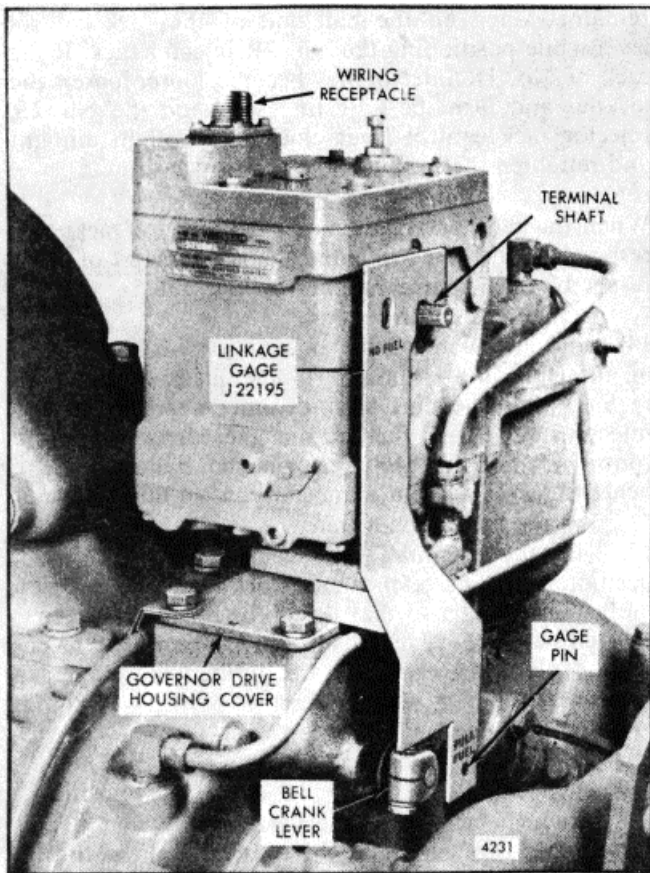

Fig. 2. Linkage Gage in Position
2. Turn the maximum speed adjusting screw (Fig. 2()) in until the screw contacts the throttle linkage internally, limiting the maximum speed of the engine at 8% above the rated full-load speed.
5. Place the linkage gage J 22195 over the governor terminal shaft and insert the gage pin in the bell crank lever bolt hole (Fig. 2). The tang on the side of the gage should just touch the top of the governor drive housing when the gage is properly positioned. The gage will hold the injector control racks in the full-fuel position while the levers are being adjusted.